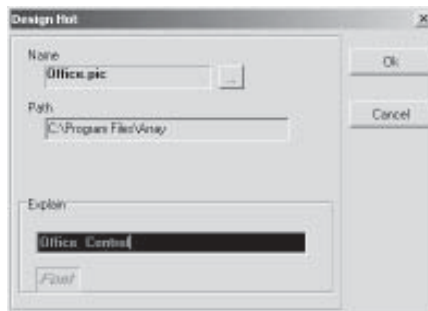

Fig. 4-38 Define Hot Area
1. Click the fast icon of the hot area  , move the mouse to the position to put the hot area, then move it together with the rectangle appearing and click the position where the rectangle appearing, then the dialogue frame as in Fig. 4-38 will be popped out. If you want to modify the defined hot area, just double click the hot area in the drawing diagram and the hot area definition dialogue frame as in Fig. 4-38 will be opened.